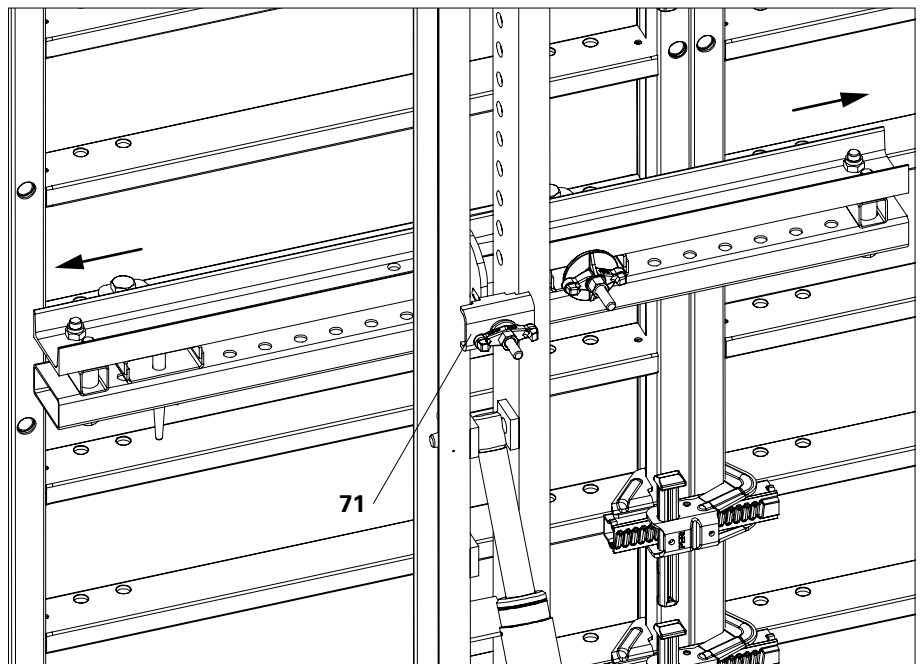

Fig. B3.10
1. Loosen the Waler Fixation U100 – U120 (71) until the panel can be moved.
3. Tighten the Waler Fixation. (Fig. B3.10)